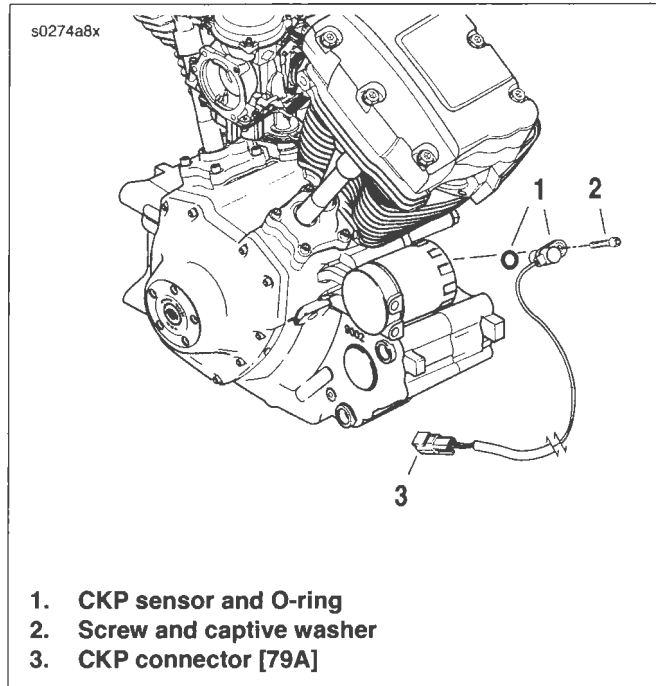

Figure 8-5. CKP Sensor Assembly
See Figure 8-5. The crank position sensor is a variable reluctance (VR) sensor that generates an AC signal by sensing the passing of the 30 teeth machined in the left side flywheel. Two consecutive teeth are missing in the flywheel to establish a reference point. The crank position sensor sends a signal to the ignition control module which is used to reference engine position (TDC) and engine speed.
- b. See Figure 8-5. Disconnect the 2-place Mini-Deutsch CKP connector (3) [79].
4. Remove screw and captive washer (2) to detach CKP sensor and O-ring (1) from crankcase. Carefully remove crank position sensor.
1. See Figure 8-5. Lubricate CKP sensor O-ring (1) with clean engine oil.